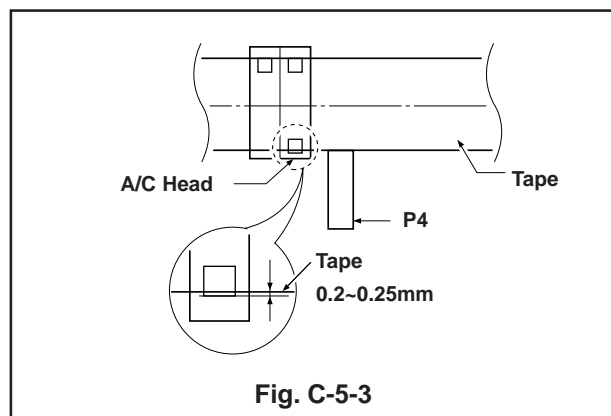

Fig. C-5-3
- If Folding or Curling is occurred then adjust the Tilt Adjustment Screw(C) while the Tape is running to resemble Fig. C-5-3.